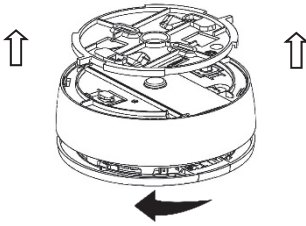

Figure 9
9. To Install the detector on the mounting bracket, align the base rib with the bracket rib, insert the base hooks into the bracket cavities and then turn the detector clockwise (see Figure 9).